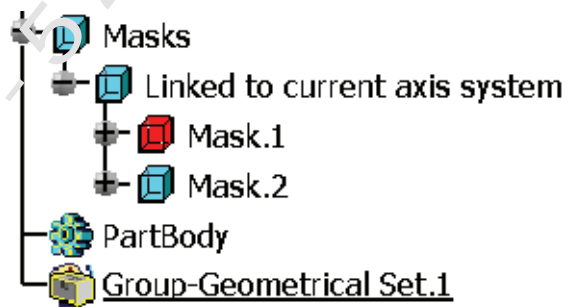

Figure 1-78
1. Right-click on Mask.1 and select **Mask.1 object > Set As Current**. An active mask is indicated with a red icon, as shown in Figure 1-78.